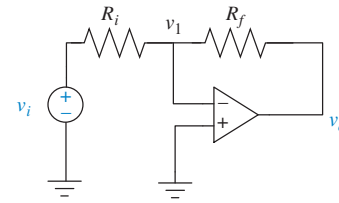

FIGURE I-5.10 Inverting operational amplifier
16. Figure I-5.10 shows the diagram of an inverting operational amplifier.